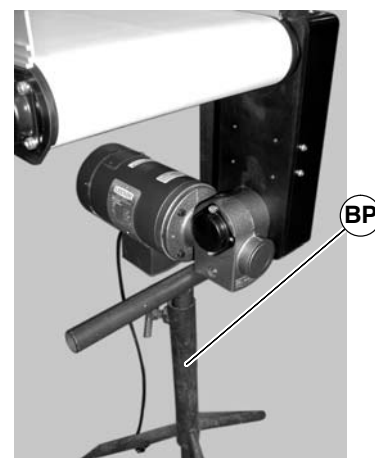

Figure 58
- 1) Use a temporary support (BP of Figure 58) to support Gearmotor.